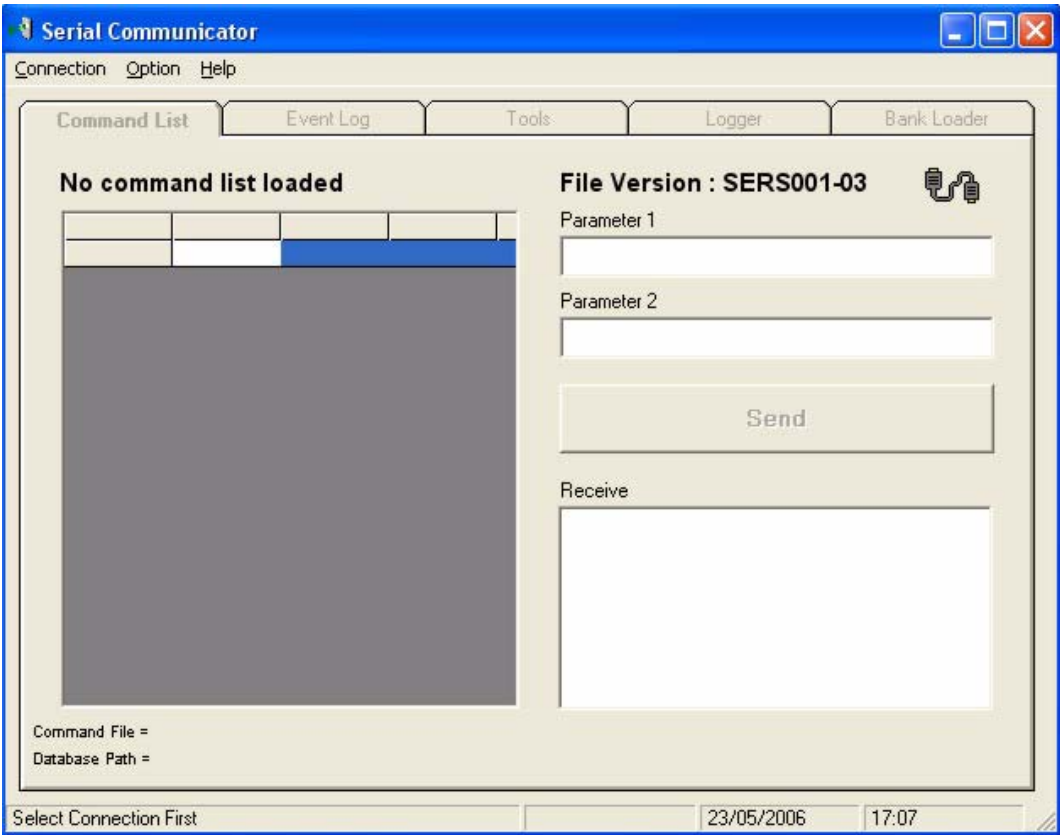

Figure 77 - Communicator Software - No Command List Loaded - Serial Communicator
- 4.3 The **No command list loaded** dialog box will be displayed (refer to Figure 77).